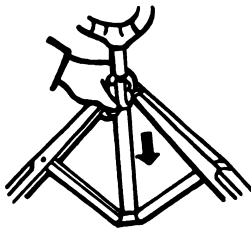

Figure 4
4. Depress the bipod friction lock and extend the legs (fig. 4).